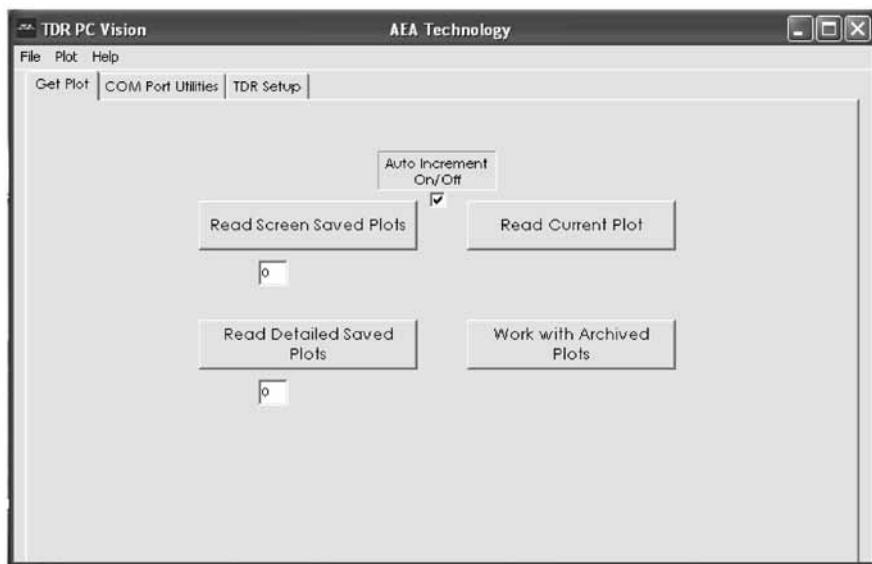

Figure 4-6
3. When communications are established or Ignore is selected, the user Options window shown in Figure 4-6 will appear. The Options window has three tabs for operating TDR PC Vision: Get Plots, COM Port Utilities, TDR Setup.